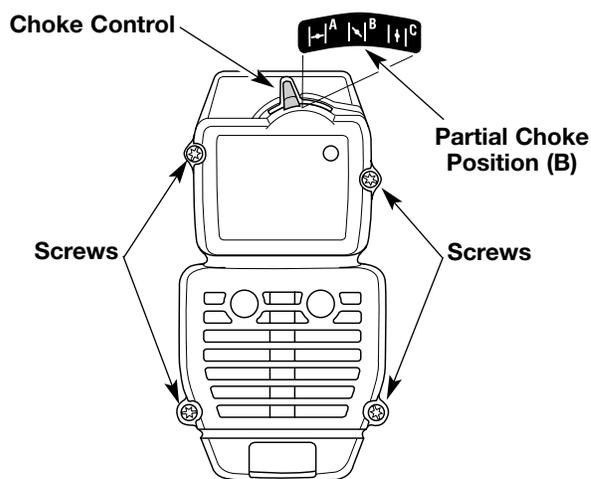

Figure 14
1. Place the choke control in the PARTIAL choke position (B).
NOTE: The choke control must be in the PARTIAL choke position (B) to remove the air filter/muffler cover. See Figure 14.
2. Remove the four (4) screws securing the air filter/muffler cover. See Figure 14. Use a flat blade or # T20 Torx bit screwdriver.
NOTE: The choke control must be in the *PARTIAL choke position (B)* to install the air filter/muffler cover. See Figure 14.
- Insert the four (4) screws into the holes in the air filter/muffler cover and tighten. See Figure 14. Use a flat blade or # T20 Torx bit screwdriver. Do not over tighten. Do not force.